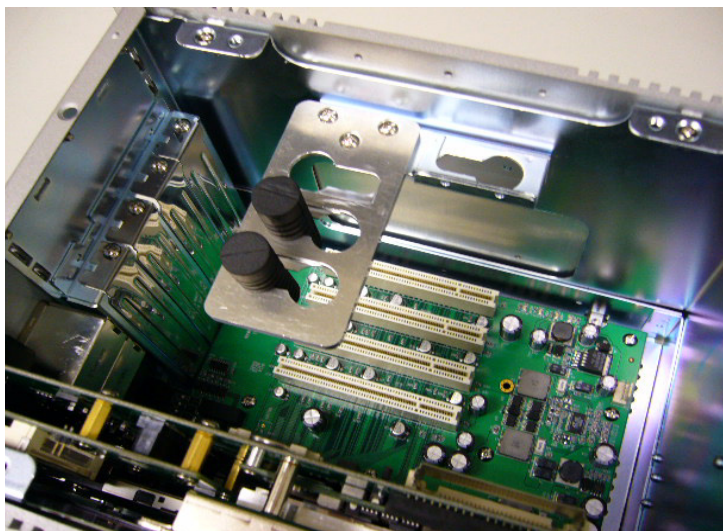

Figure 3.2: 2nd PCI-bus Card Installation
5. Screw the 1st anti-vibration rubber towards the 1st PCI card until it is fixed. (Figure 3.2).